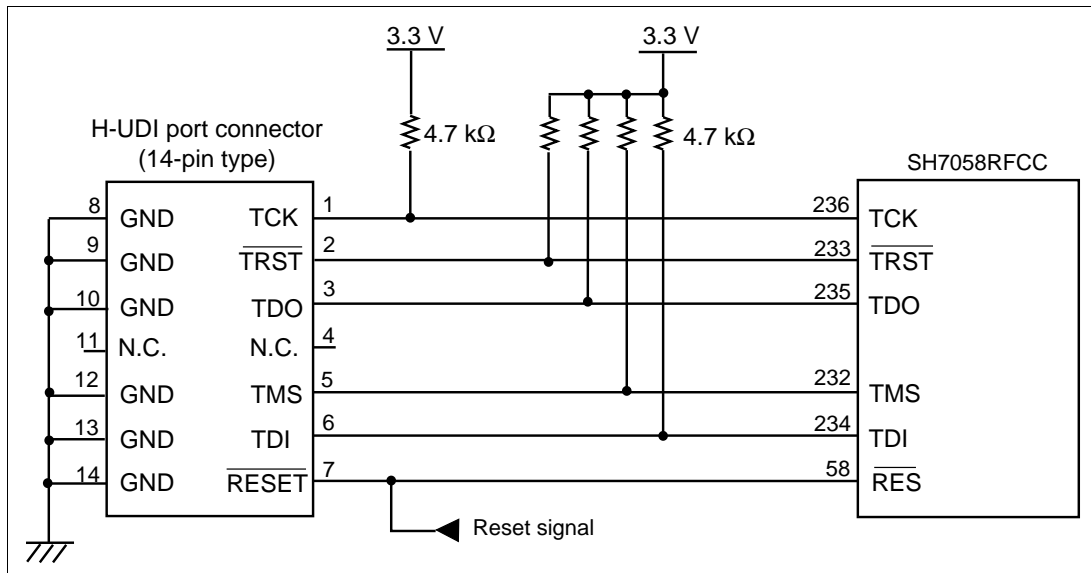

Figure 4.2 Recommended Circuit for Connection between the H-UDI Port Connector and the Device (14-Pin Type)
Figure 4.2 shows a recommended circuit between the H-UDI port connector (14 pins) and the device.
5. The resistance values shown in figure 4.2 are recommended.